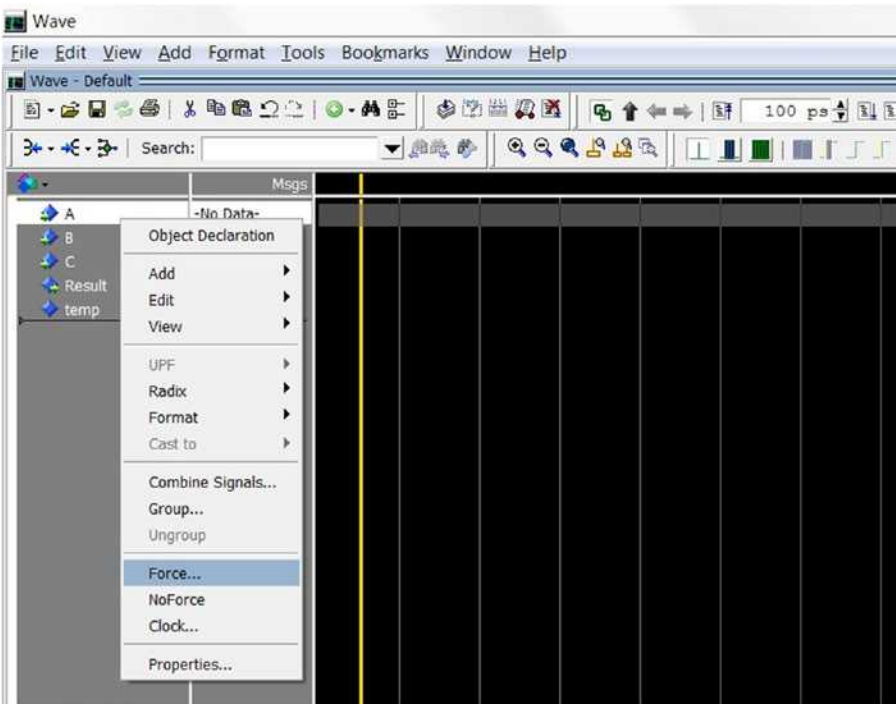
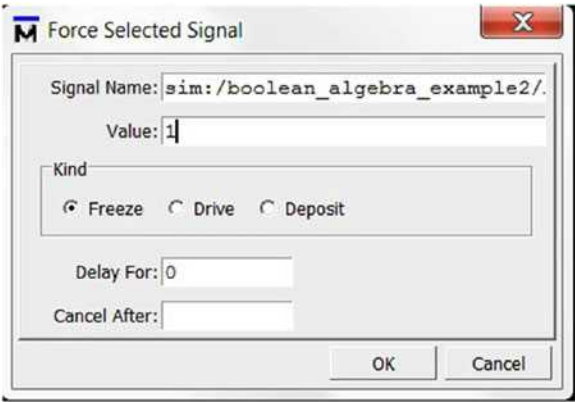

Figure 8-17. Force signal A to high (1)
Figure 8-18. Force signal A to high (1)
11. Right-click A signal and select **Force...**. Force Selected Signal window pop-up (Figure 8-17). Change the Value from U to 1 (Figure 8-18) and click OK. Or type **force -freeze sim:/boolean_algebra_example2/A 1 0** in the transcript (tcl window).